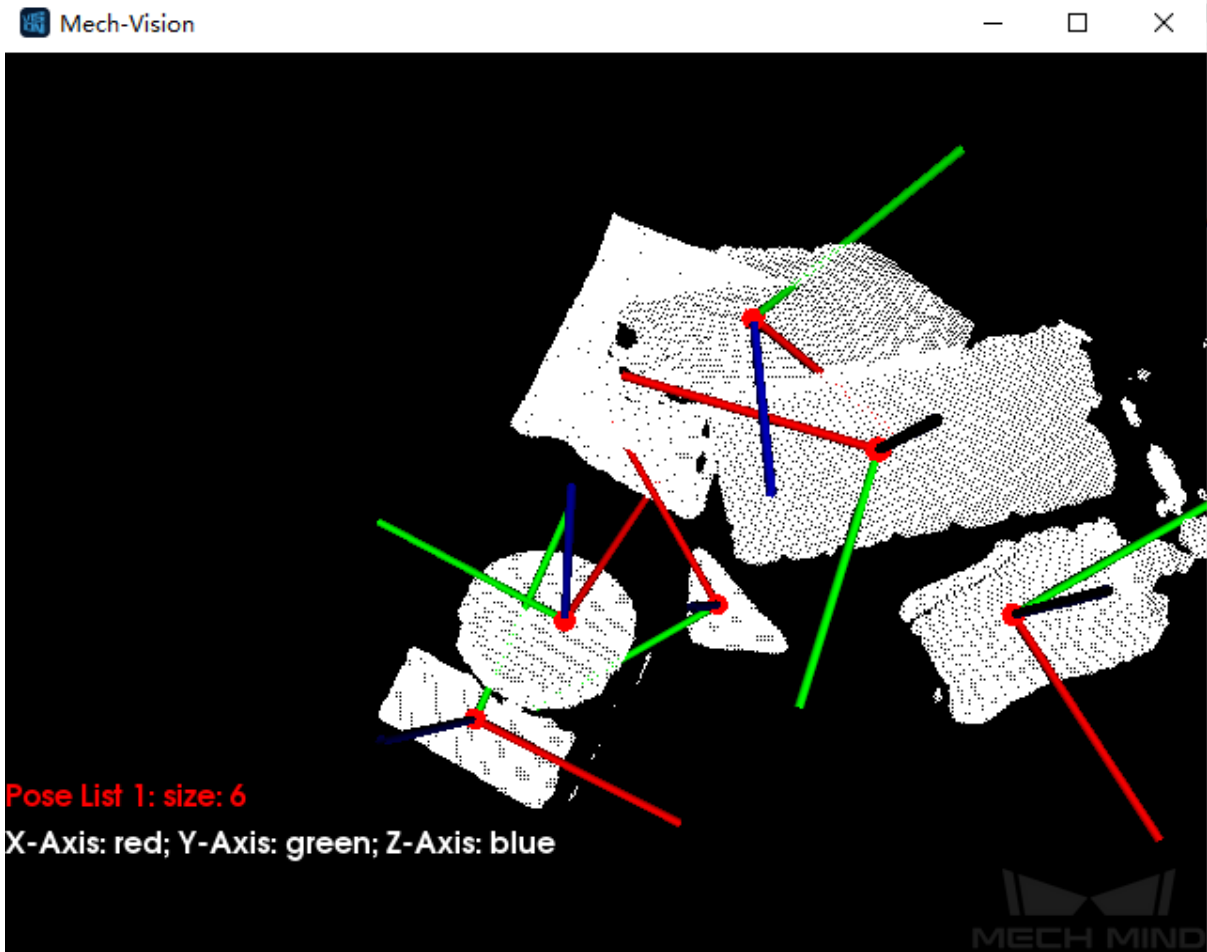

Figure 3. A sample result of grasp pose estimation
- The pose of the object's pickable surface under the camera coordinate system (as shown in *Figure 3*).